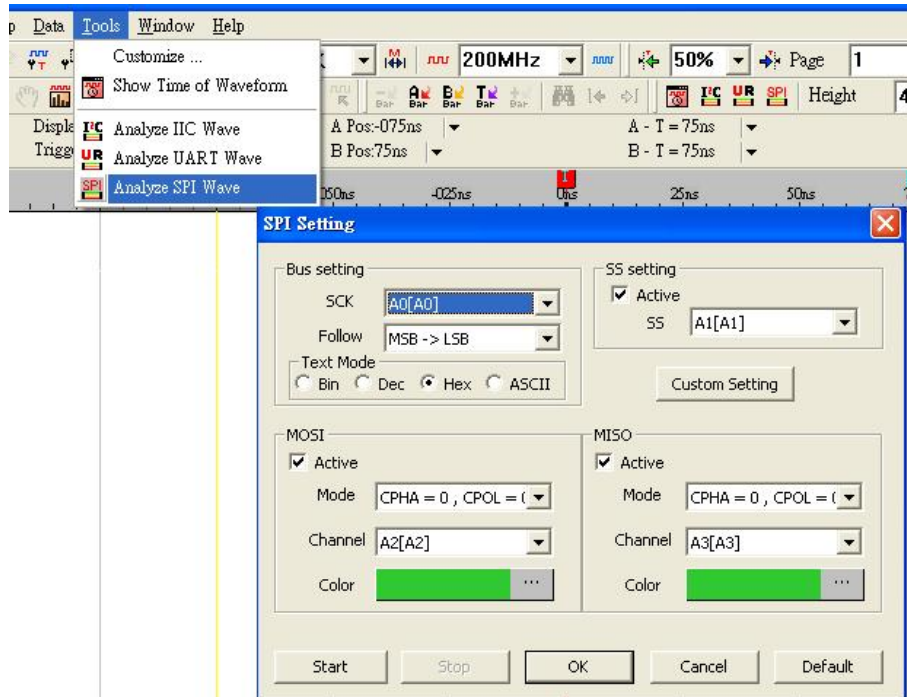

Fig 4-36 – Analyze SPI Wave
- Step 2.** Set up the falling edge on the signal of SS which connected to the Signal Selector (SS) pin of the SPI tested board.
- Step 3.** Click  icon or select the Analyze SPI wave on the Tools of the menu bar. The dialogue of the Bus SPI setting will appear (see Fig 4-36).